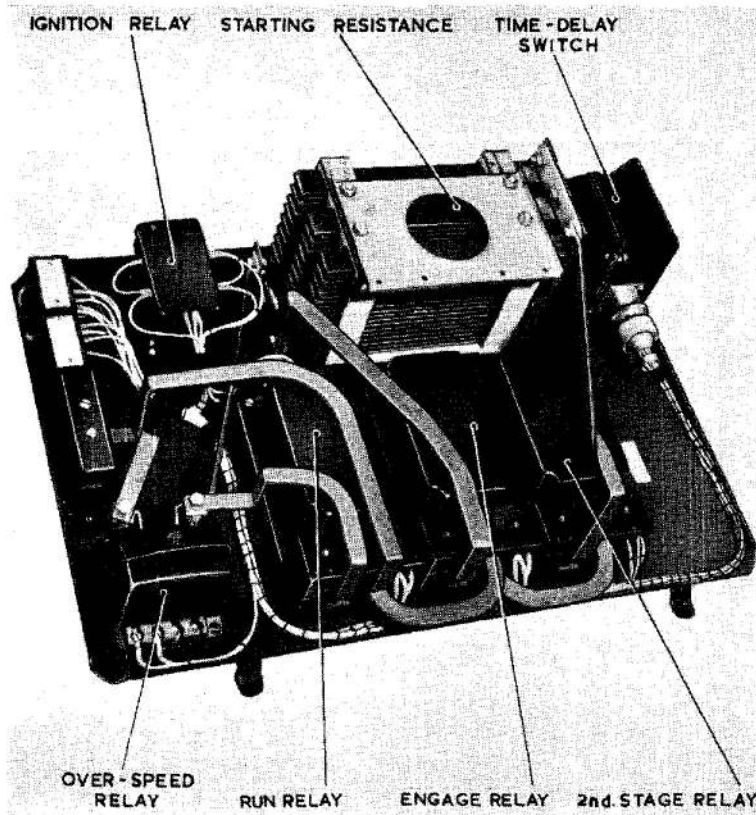

Fig. 2. Start panel
3. The start panels, one of which is illustrated in fig. 2, carry the following main components, which appear under leading particulars. Time delay switch Rotax Type D8133, the overspeed relay, a resistor unit, the engage, second stage and run relays, and an additional relay which is not normally